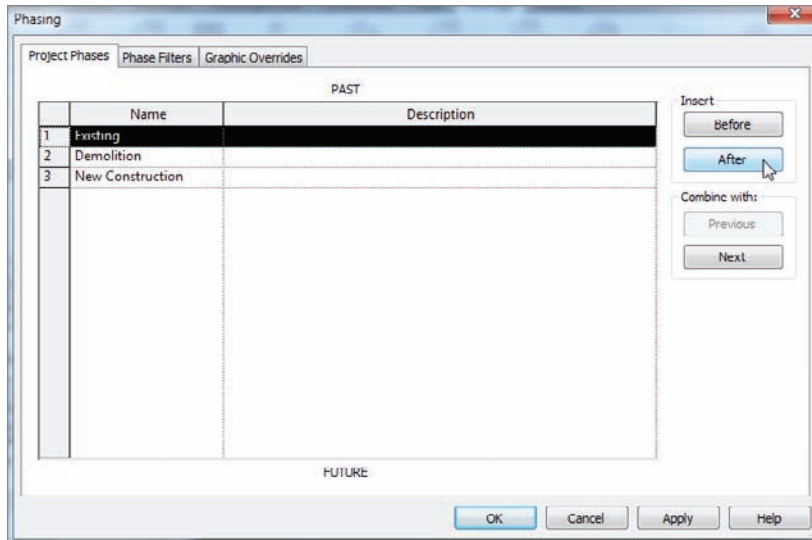

FIGURE 21.2 Adding the Demolition phase
4. Rename the phase that is now in the middle to **Demolition**, as shown in Figure 21.2.